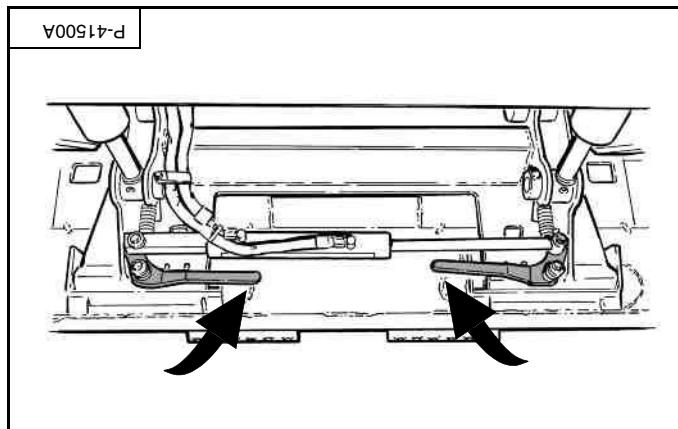
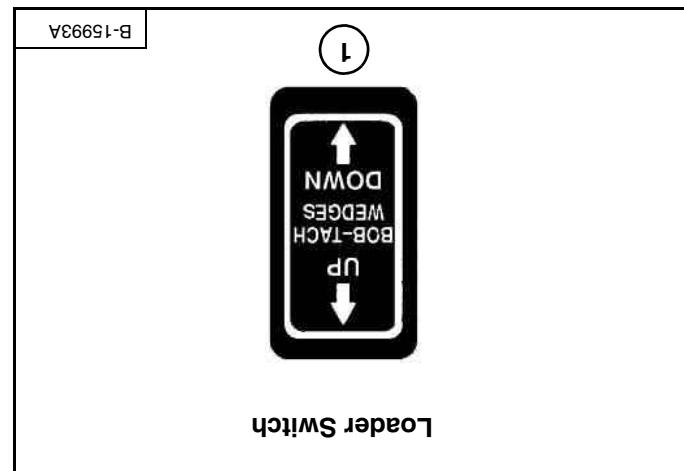

Figure 7
Figure 6
Push (item 1) [Figure 6] and hold the BOB-TACH "WEDGES DOWN" switch until the levers are fully extended through the attachment mounting frame holes). Engaged in the locked position [Figure 7] (wedges fully engaged through the attachment mounting frame holes).